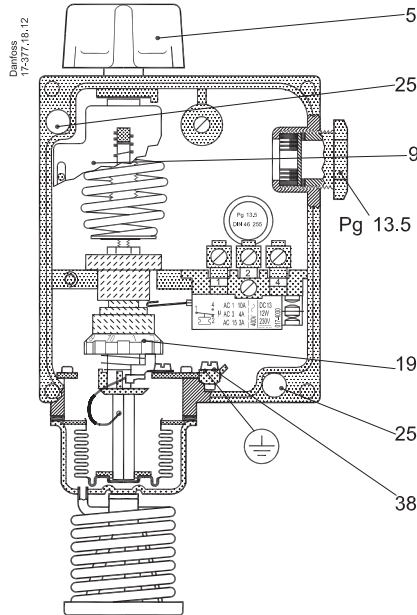

Fig. 1
by rotating the knob (5) (fig. 1), and at the same time reading the main scale (9) (fig. 1).